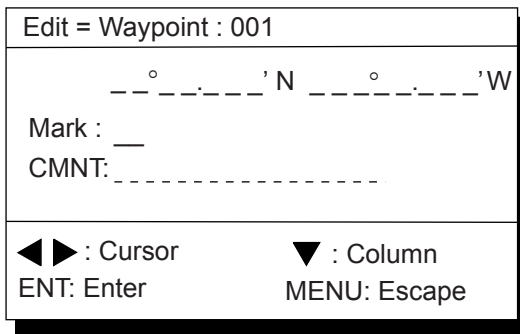

Figure 4-11
- 5) Press **◀** or **▶** to enter position. The display should now look something like Figure 4-11.